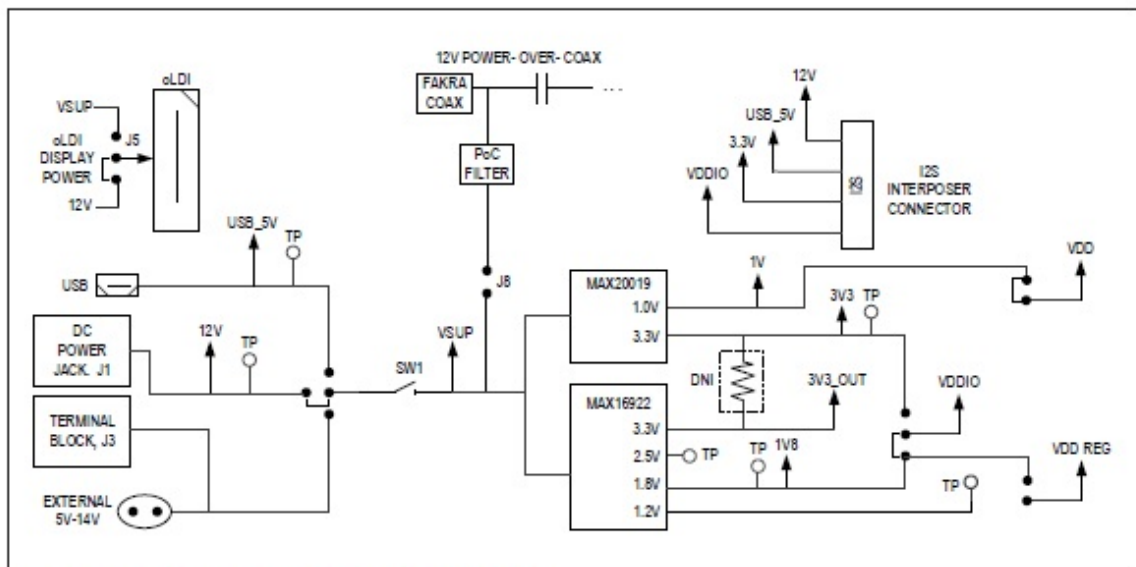

Figure 4. Deserializer Evaluation Board Power Block Diagram
5. Connect the +12V wall DC power supply to J1. See Figure 4 for power supply details.